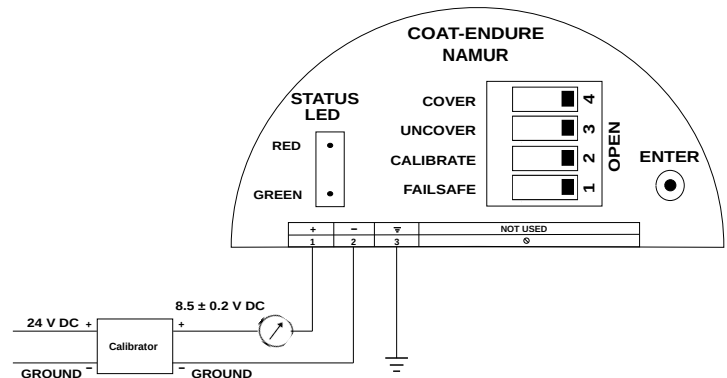

Figure 42: Electrical Connection during installation
Please refer to the Figure 42 for electrical connections while connecting the Elixir Namur in an application tank.
- Refer to given Figure 42 for Electrical Connections to power up and connect the device.